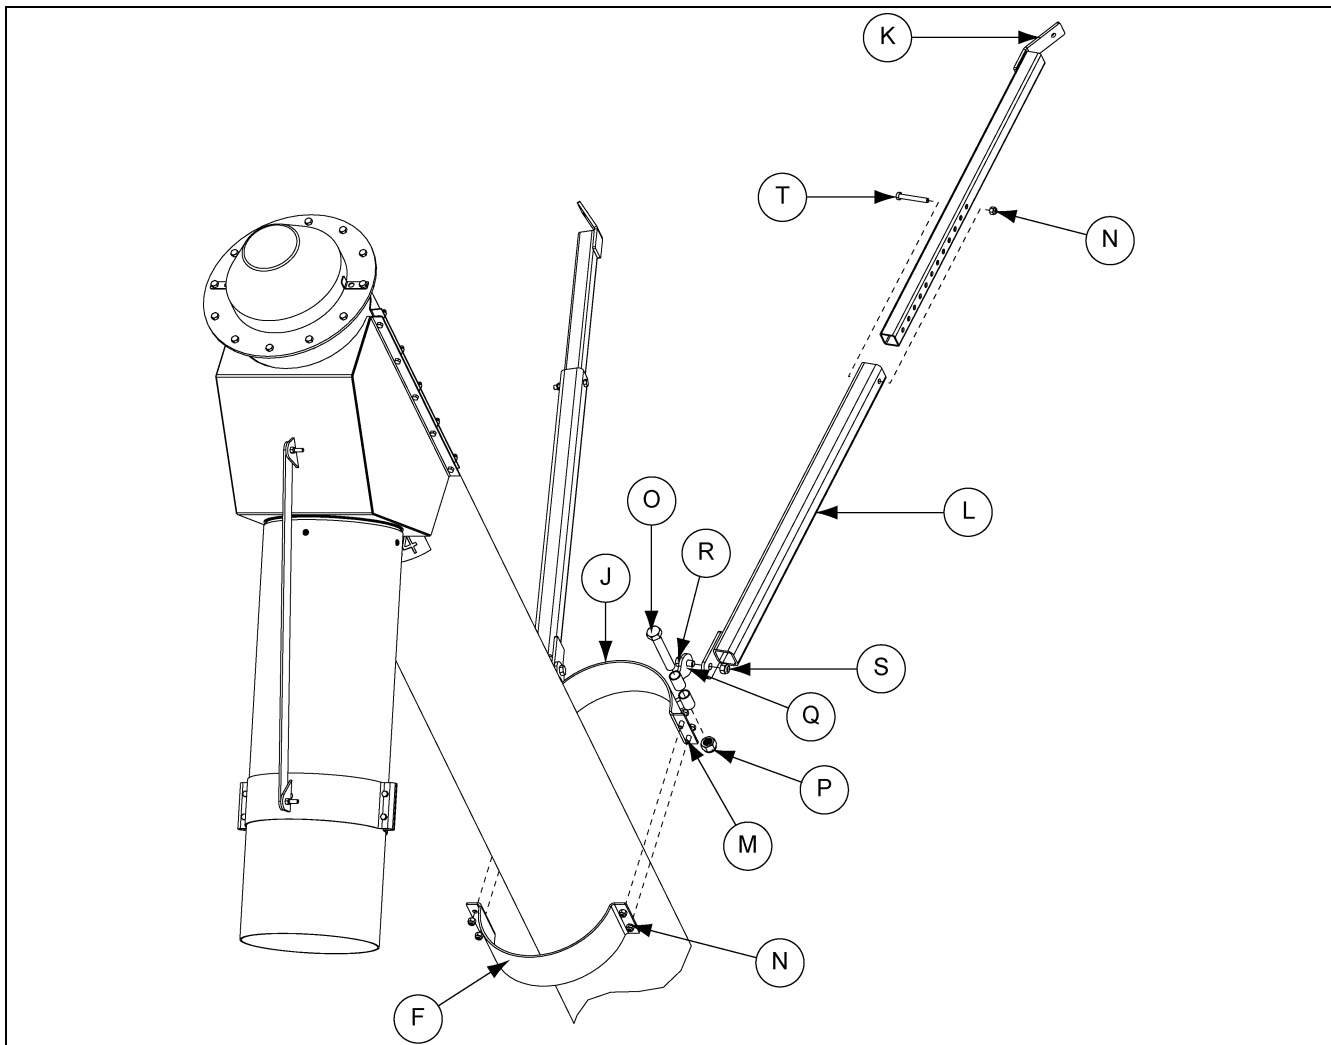

Figure 3C
- D. Attach the two (2) *leg support brackets* (Q) to the *mounting bracket pivot band* (J) using two (2) 3/4" x 4-1/2" hex bolts (O) and nylock nuts (P).
- E. Attach the two (2) *outer support legs* (L) to the *leg support brackets* (Q) using two (2) 1/2" x 1-1/4" hex bolts (R) and nylock nuts.
- F. Slide the two (2) *inner support legs* (K) into the *outer legs* (L) and temporarily secure with two (2) 3/8" x 2-1/2" hex bolts (T) and nylock nuts (S). (See Figure 3C.)